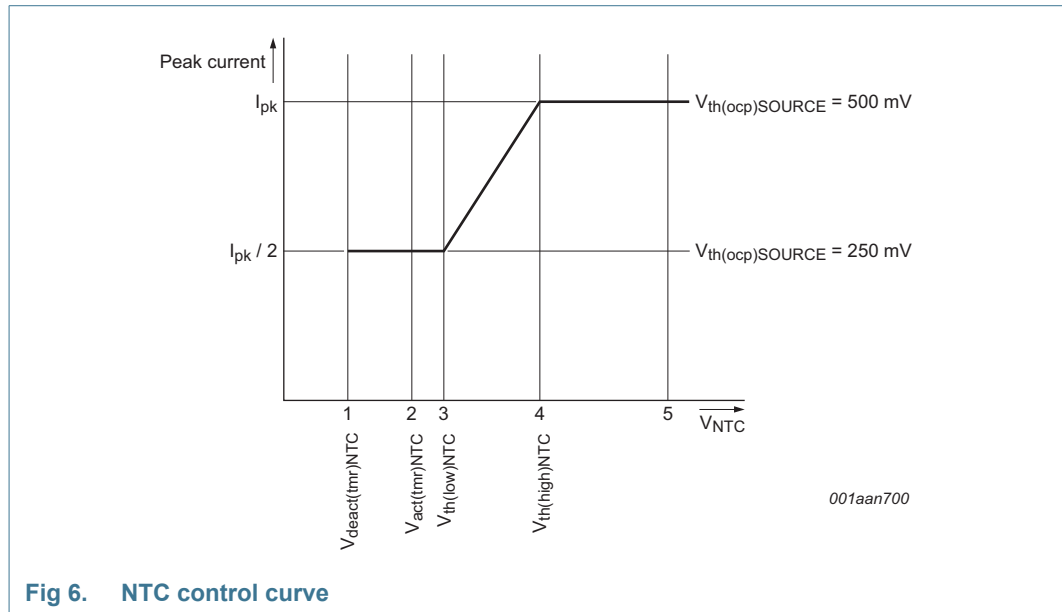

Fig 6. NTC control curve
The NTC pin can be used as a control method for LED thermal protection. Alternatively, the pin can be used as an input to disable/enable light output using a digital signal (PWM dimming). The pin has an internal current source that generates the current of $I_{offset(NTC)}$. An NTC resistor to monitor the LED temperature can be directly connected to the NTC pin. Depending on the resistance value and the corresponding voltage on the NTC pin, the converter reacts as shown in Figure 6.
When the voltage on the NTC pin exceeds $V_{th(high)NTC}$ (see Figure 6 \(4\)), the converter delivers nominal output current. When the voltage is lower than this level, the peak current is gradually reduced until $V_{th(low)NTC}$ is reached (see Figure 6 \(3\)). The peak current is now half the peak current of nominal operation. When $V_{act(tmr)NTC}$ is passed (see Figure 6 \(2\)) a timer starts to run to distinguish between the following situations:
- If the low-level $V_{deact(tmr)NTC}$ is not reached within time $t_{to(deact)NTC}$, (see Figure 6 \(1\)) LED overtemperature is detected. The IC stops switching and attempts to restart from the HV pin voltage. The converter restarts from an NTC protection shutdown when the voltage on the NTC pin exceeds $V_{th(high)NTC}$ (see Figure 6 \(4\)). It is assumed that the reduction in peak current does not result in a lower NTC temperature and LED OTP is activated.
- If the low-level $V_{deact(tmr)NTC}$ is reached within the time $t_{to(deact)NTC}$, (see Figure 6 \(1\)) it is assumed that the pin is pulled down externally. The restart function is not triggered. Instead, the output current is reduced to zero. PWM dimming can be implemented this way. The output current rises again when the voltage is higher than $V_{th(low)NTC}$.
The NTC pin can be used to make a soft start function. During switch-on, the level on the NTC pin is low. By connecting a capacitor (in parallel with the NTC resistor), a time constant can be defined. The time constant causes the level on the NTC pin to increase slowly. When passing level $V_{th(low)NTC}$ (see Figure 6 \(3\)), the convertor starts with half of the maximum current. The output current slowly increases to maximum when $V_{th(high)NTC}$ (see Figure 6 \(4\)) is reached.